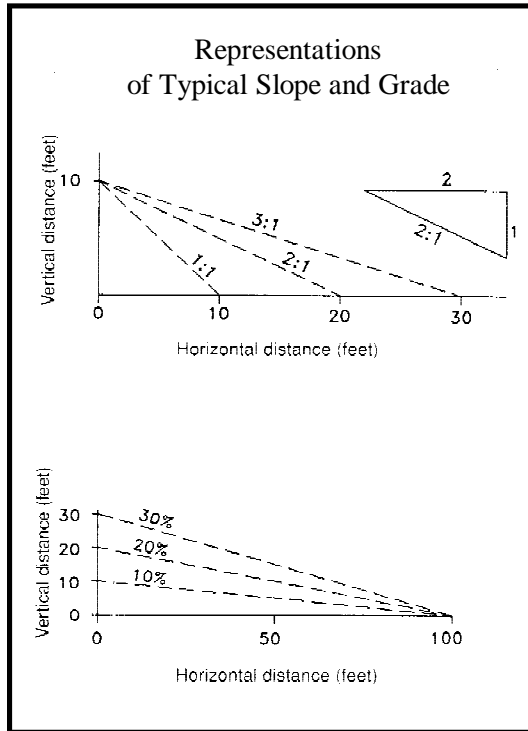

Figure ROAD-4
**U** Avoid constructing roads with grades in excess of 10%. On highly erodible soils, maximum grades of 5% are recommended. See Figure ROAD-4.